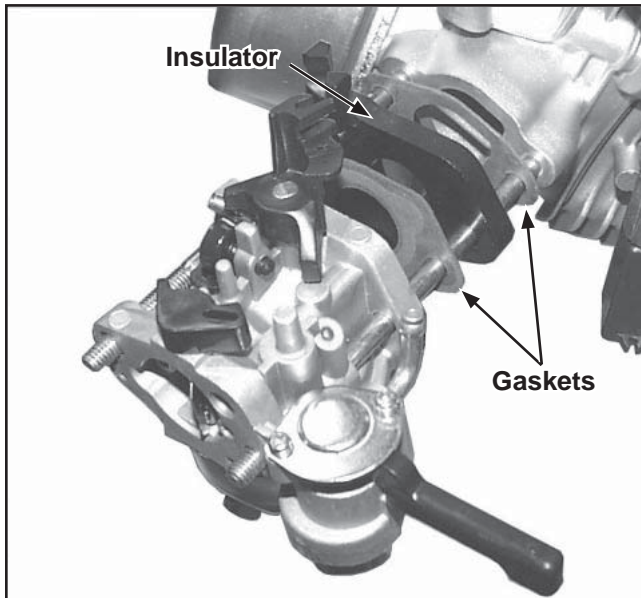

Figure 9-16. Carburetor Removal.
1. Disconnect the throttle link and dampening spring from the carburetor. Remove the carburetor, carburetor gasket, insulator, and insulator gasket from the studs. See Figure 9-16.